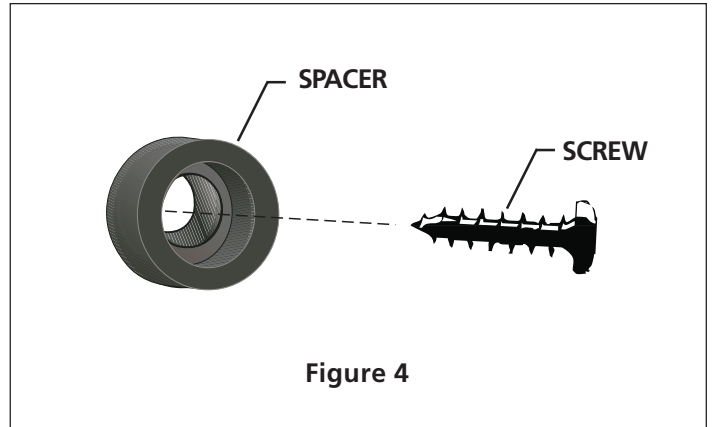
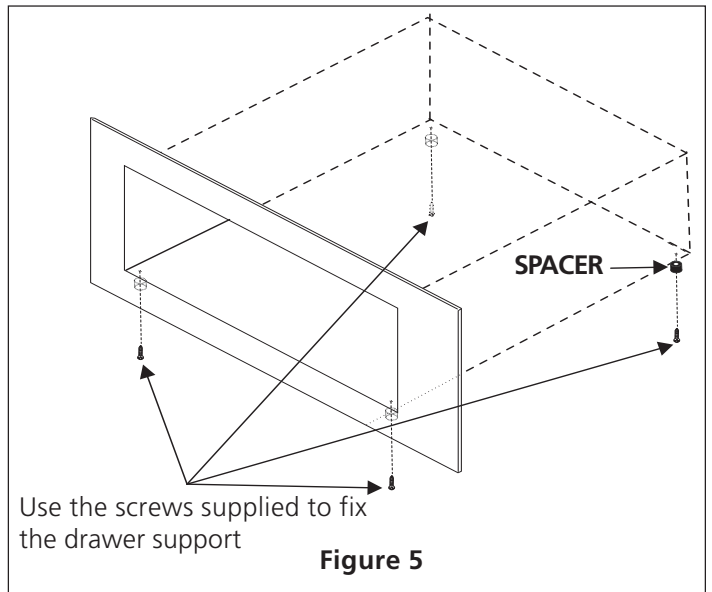

Figure 4
Figure 5
2. Install the 4 spacers (Figure 4) supplied under drawer as shown in figure 5 using the 4 screws (10-24 X 5⁄8"). Install two spacers on each side of drawer.